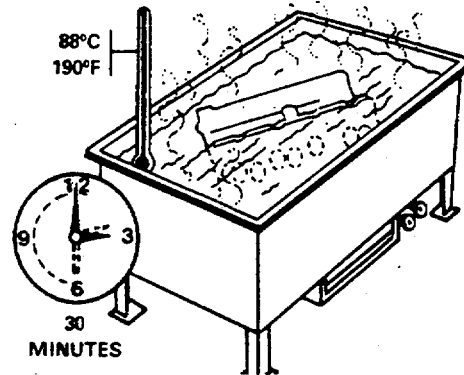

FIGURE 4-9. Washing Cylinder Head
- c. Wash the cylinder head in hot soapy water. Let set for 30 minutes with water temperature 190°F (88°C). See FIGURE 4-9.